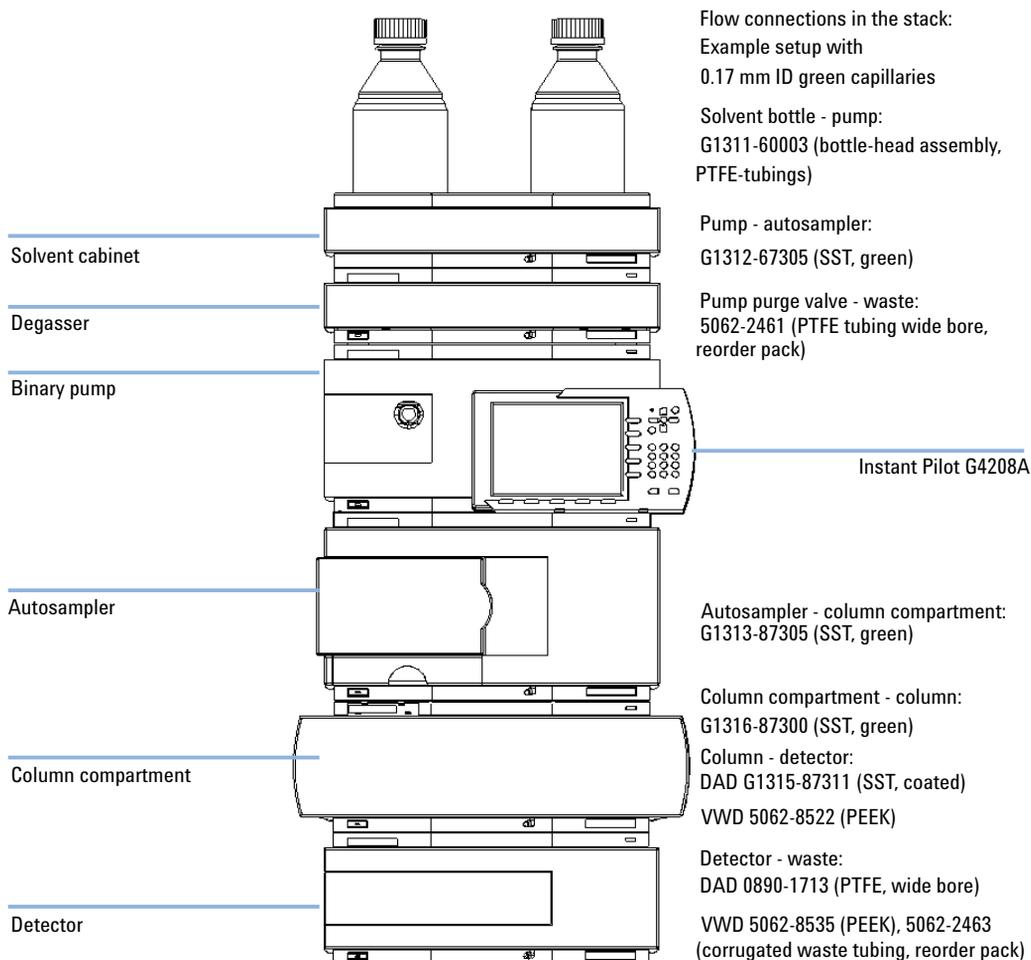

Figure 5 Recommended Stack Configuration (Front View)
- 1 Place the individual modules in a stack configuration as shown in Figure 5 on page 29.
- 1 Place the vacuum degasser in the stack of modules as shown in Figure 5 on page 29.